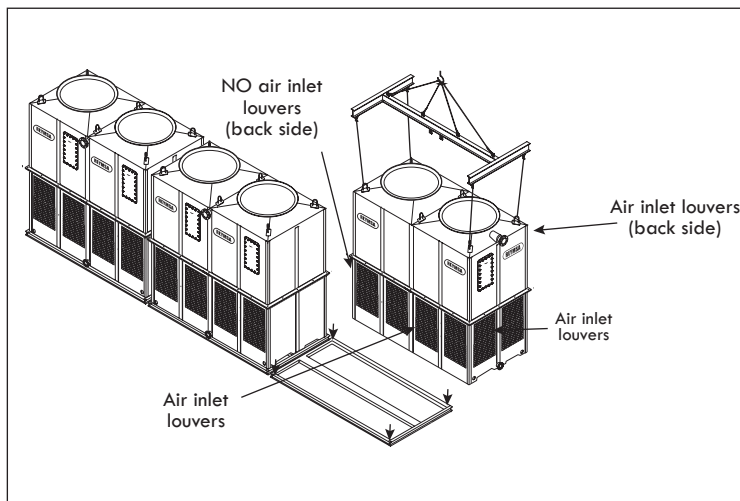

Figure A-69: Last module lifting for a short side arrangement (RTM-B-S)
- C. Lift and install the last module. This module should have 3 air inlet sides (two large sides and one short side). See Figure A-69 for reference.